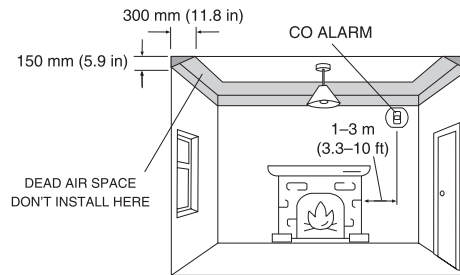
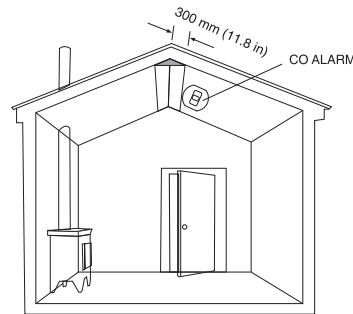

Figure 1: Installation in a room with a fuel-burning appliance
Figure 2: In rooms with sloped ceilings, the CO alarm should be located at the high side of the room
(See Figure 1 and Figure 2):
- In rooms with sloped ceilings, the CO alarm should be located at the high side of the room (see Figure 2).